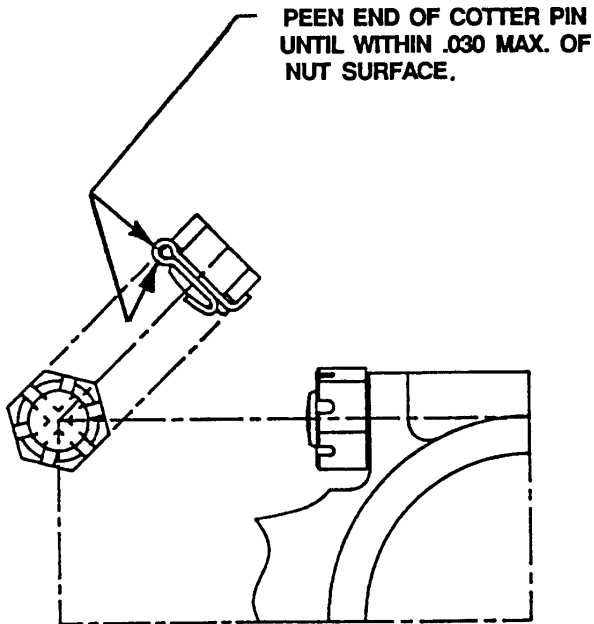

FIGURE 2
- Install and torque replacement connecting rods in accordance with the applicable TCM Overhaul Manual. Install cotter pins in accordance with Figure 2.